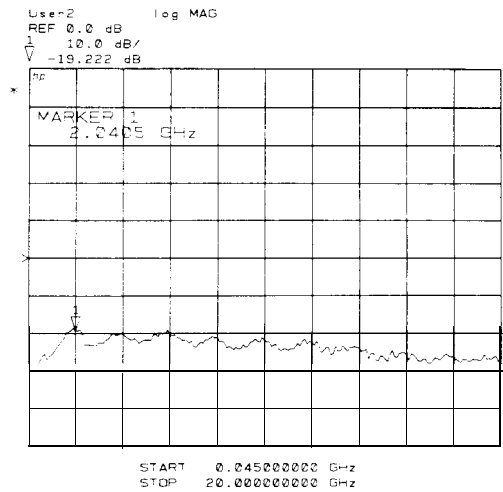
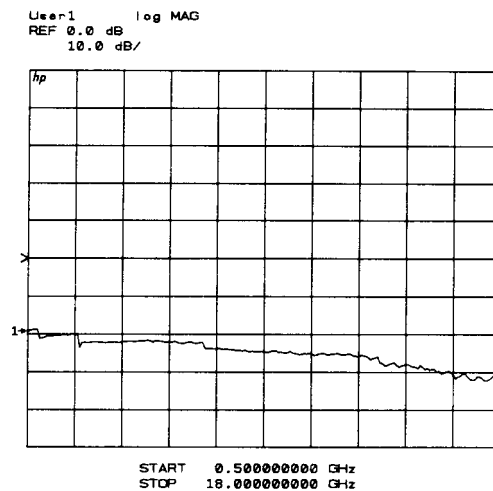

Figure 3-3. Typical Operator's Check CRT Power Level Trace
Figure 3-4. Typical Operator's Check CRT Power Level Trace
Plug in and turn on the test set (it should not be connected to any other instrument or device now). The line LED should light immediately and the active LED should light in about two seconds. Those indications mean that the instrument has passed its self-test. Turn off the test set and connect it to the HP8510 system as shown in Figure 3-3. Turn on all of the system instruments, network analyzer last. Let the instruments complete their self-tests.
- HP 8350B systems: press **[SWEEP TIME] [2] [0] [0] [k/m]** to set the sweep time to 200 ms. In narrow band systems, the level of the frequency band generated should match the levels shown in Figure 3-3 for a given frequency.
The b₁ and b₂ traces should resemble Figure 3-3. The a₁ and a₂ traces should resemble Figure 3-4.
5. Press PARAMETER [MENU] [USER 4 b1] [REDEFINE PARAMETER] [DRIVE] [PORT 2] [PHASELOCK] [a2] [REDEFINE DONE] to observe the b1 thru power level trace. The trace should resemble Figure 3-4.
6. Leave the thru connection of step 4 connected. Press PARAMETER [MENU] [USER 2 b2] [REDEFINE PARAMETER] [DRIVE] [PORT 1] [PHASELOCK] [a1] [REDEFINE DONE] to observe the b2 power level trace. The trace should resemble Figure 3-4.
3. Press [USER 4 b1] to observe the b1 power level trace. The trace should resemble Figure 3-3.
5. Press PARAMETER [MENU] [USER 2 b2] [REDEFINE PARAMETER] [DRIVE] [PORT 1] [PHASELOCK] [a1] [REDEFINE DONE] to observe the b2 power level trace. The trace should resemble Figure 3-4.